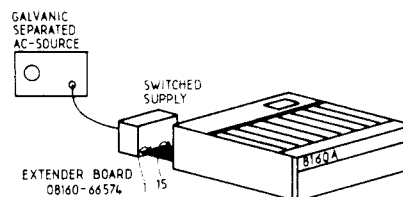

Figure 5-1
1. Connect AC source and supply as shown in Figure 5-1.